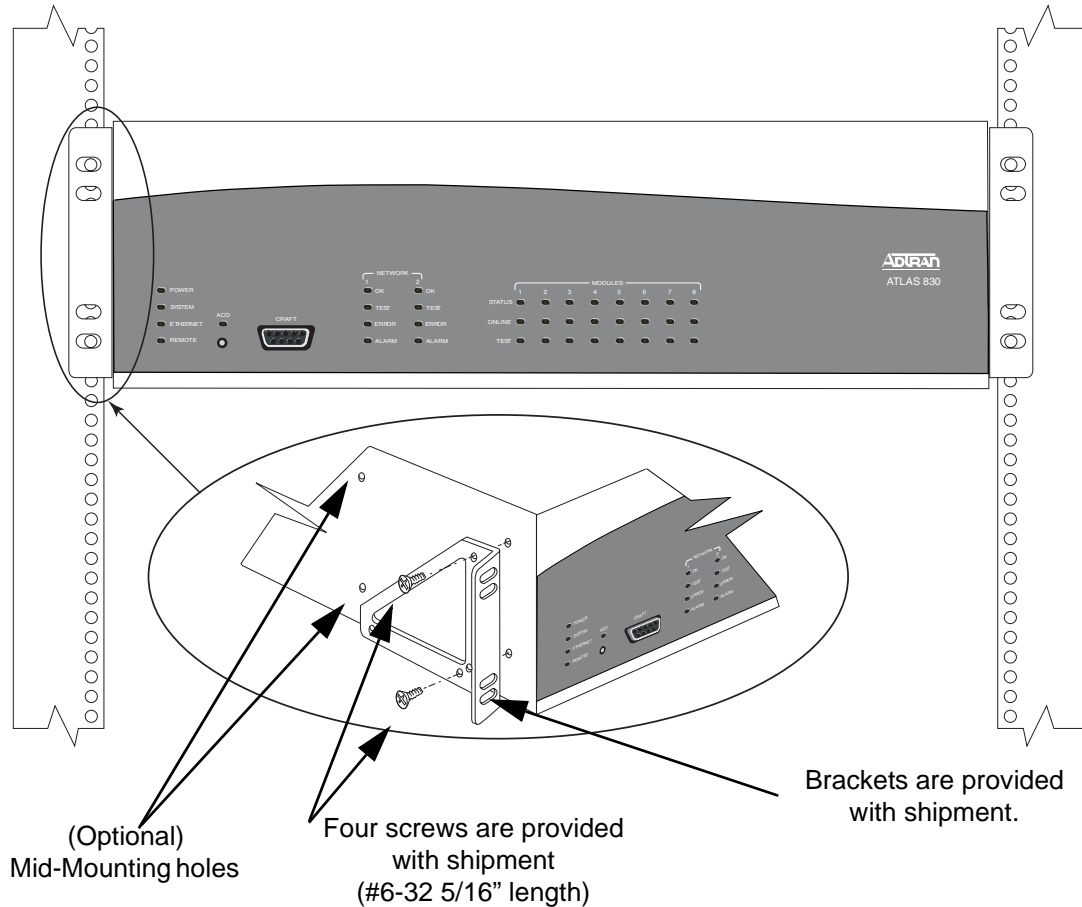

Figure 1. Mounting Brackets (shown with ATLAS 830)
- Figure 1. Mounting Brackets (shown with ATLAS 830) 63
The ATLAS 830 may be used on a tabletop or installed in a 19-inch or 23-inch rackmount configuration. The ATLAS 890 must be rackmounted. For rackmount installations, the ATLAS allows flush-face mount, face-forward mount, and center mount (see Figure 1).